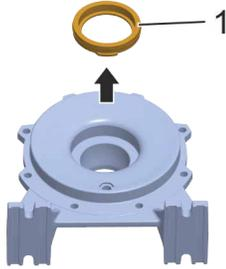

Fig. 57 Removing the impeller protector
5. Remove the impeller protector (Fig. 57/1) and place it to one side for later assembly.